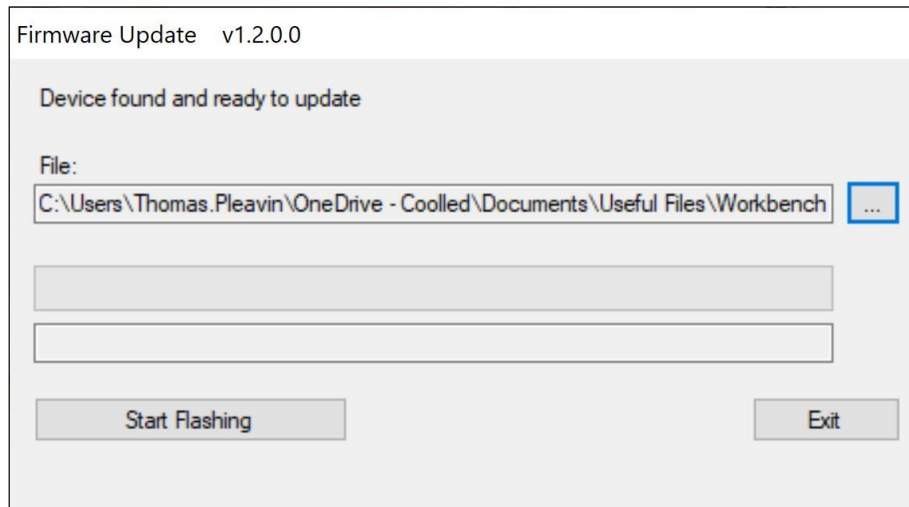

Figure 56 – Firmware update window, ready to click 'Start Flashing'.
12. With the file path populated in the *File* box, click the *Start Flashing* button (Figure 56).